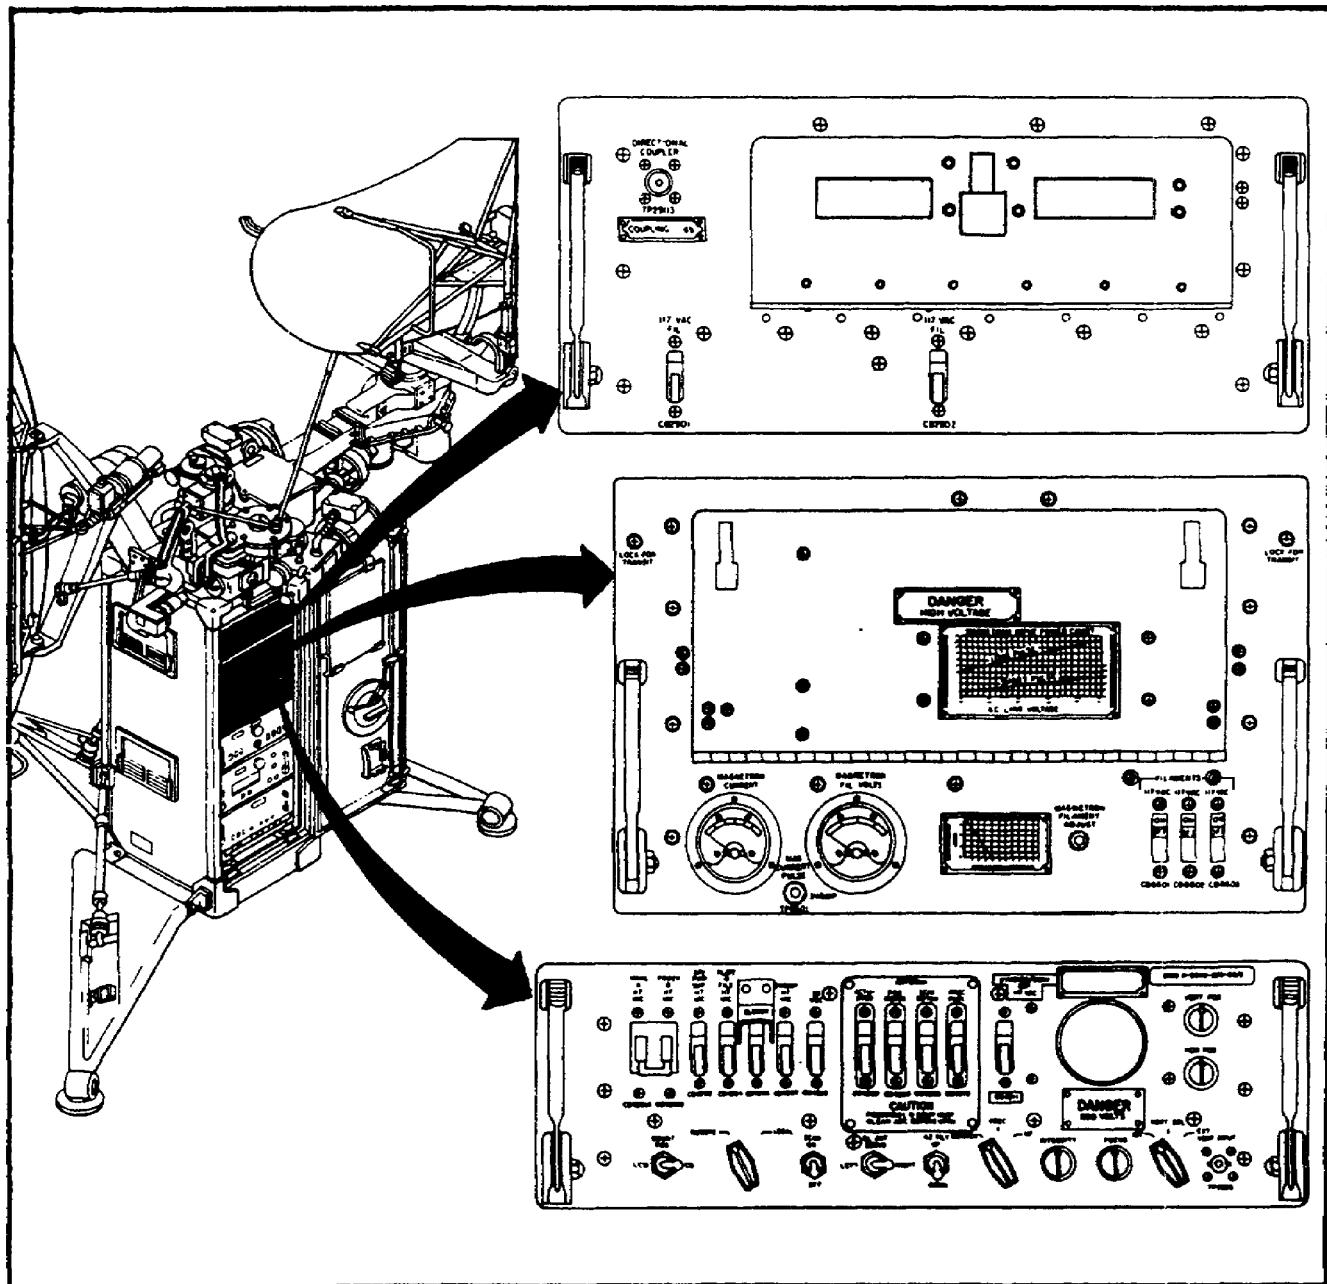

Figure 44. Receiver, transmitter, and control.
b. Locate and identify receiver, radar chassis R-981/FPN-40; transmitter, radar T-749A/FPN-40 chassis; and control, monitor chassis C-2124A/FPN-33 on receiver-transmitter group OA-2667/FPN-40. (See Figure 44.)
l. Locate the control monitor, C2124A/FPN-33. (See Figure 44.)
- Receiver-radar R-981/FPN-40 (Figure 44)
- Transmitter-radar T-749A/FPN-40 (Figure 44)
- Control-monitor C-2124A/FPN-33 (Figure 44)